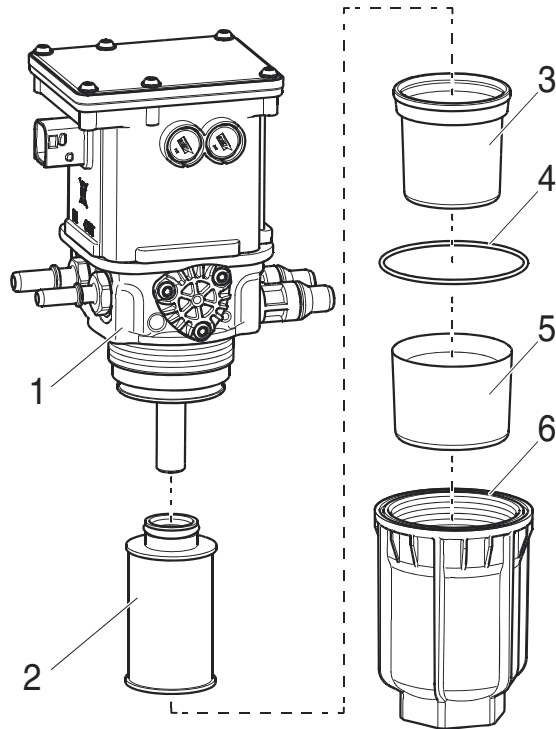

Figure 15 DEF Pump Filter
1. Remove the sealing diaphragm. See Figure 15.